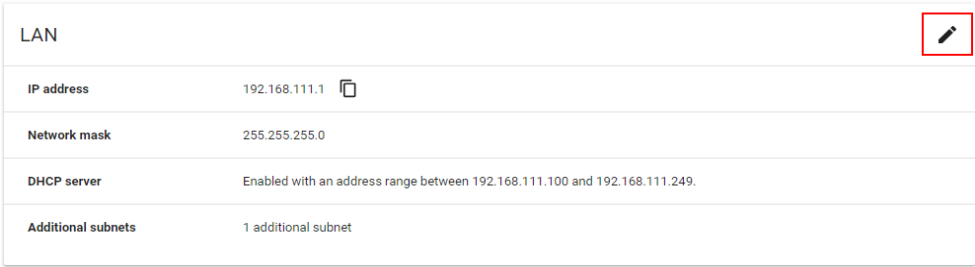

Figure 5.48 Edit the LAN configuration.
2. On the LAN panel, click the pencil symbol to edit settings (Figure 5.48).